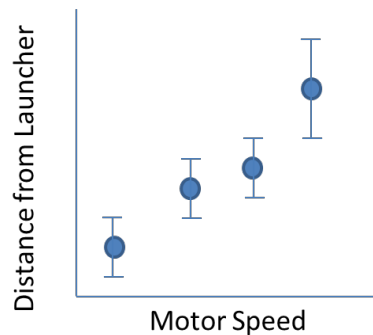

Figure 3: Testing of the ping pong ball shooter
- a. For a ping pong ball launcher, We performed 30 trials of the spinning wheel mechanism and measured the following relationship between motor speed and distance from the launcher as shown in Figure 3.